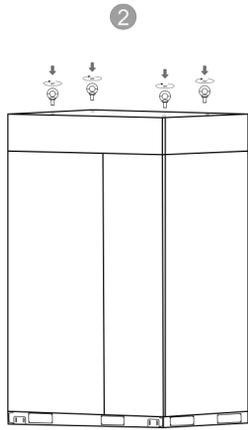
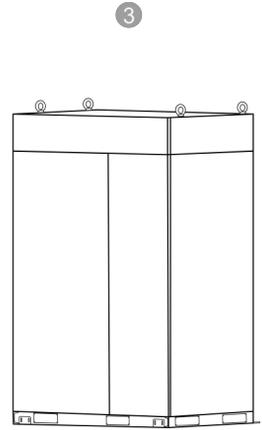

Figure.2
Figure.3
2. Insert the four hanging rings into holes on the top of the machine and then turn them clockwise until they are secured firmly. See the Figure.2 and Figure.3.